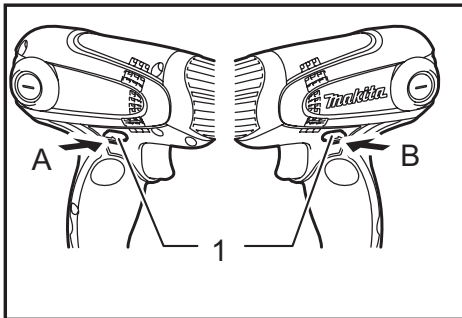

Fig.3
► Fig.3: 1. Reversing switch lever